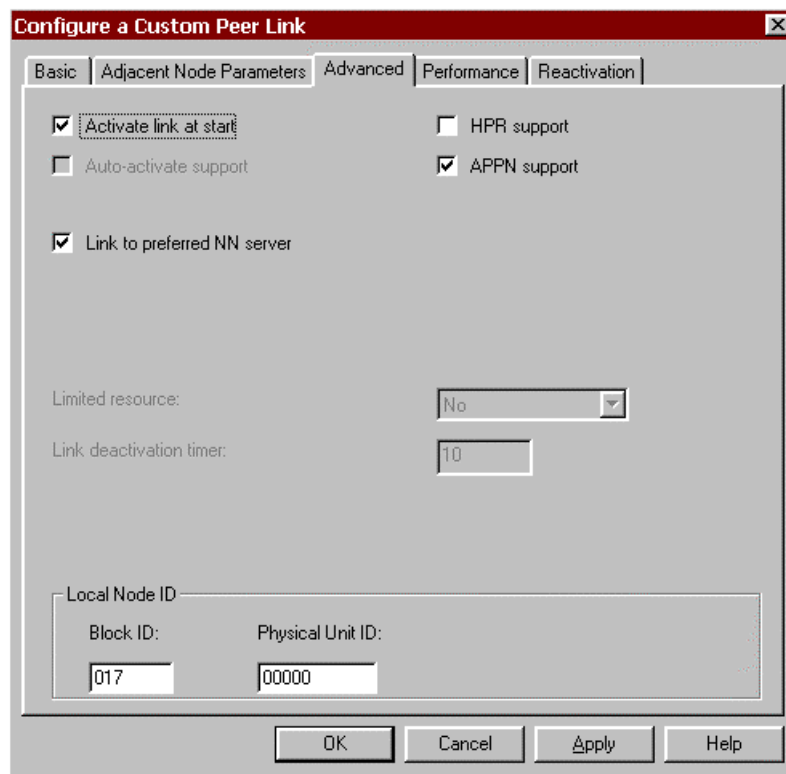

Figure 11-28. Configure a Custom Peer Link
- **Adjacent CP name:** Identifies the Control Point (CP) name of the host. If this field is entered the name must match that defined on the host or a connection will not be established. Leave the field blank to avoid checking.
4. Click the **Advanced** tab (Figure 11-28):